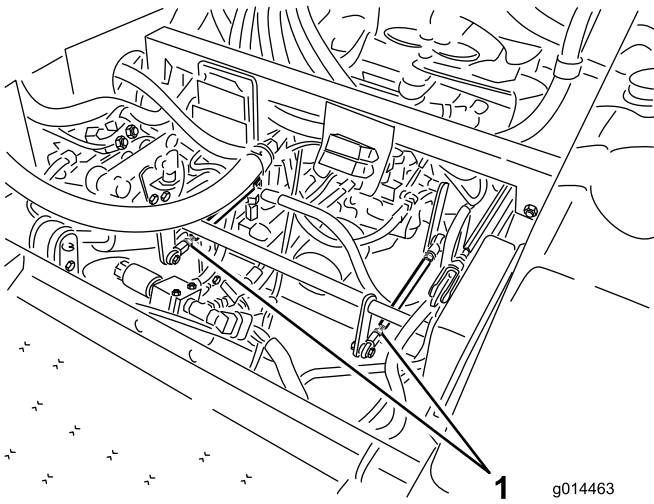

Figure 38
- If the left rear tire is rotating, loosen the jam nuts on the left side transmission control rod (Figure 38).